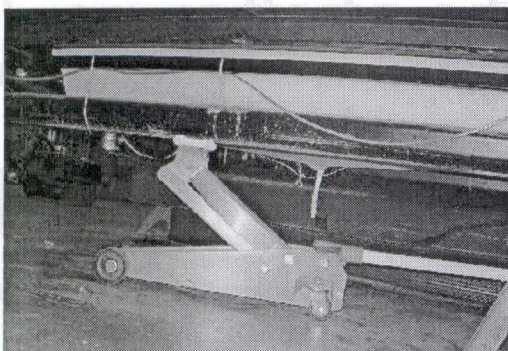

Figure 1
- Step 1 Support one of the axle tubes with a hydraulic jack. See Figure 1.